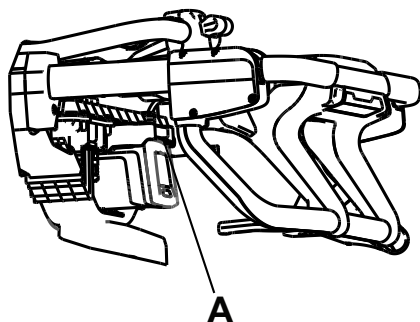

Figure 45 – Battery release button
1. Press the battery release button (A) to release the battery from the product (Figure 45).